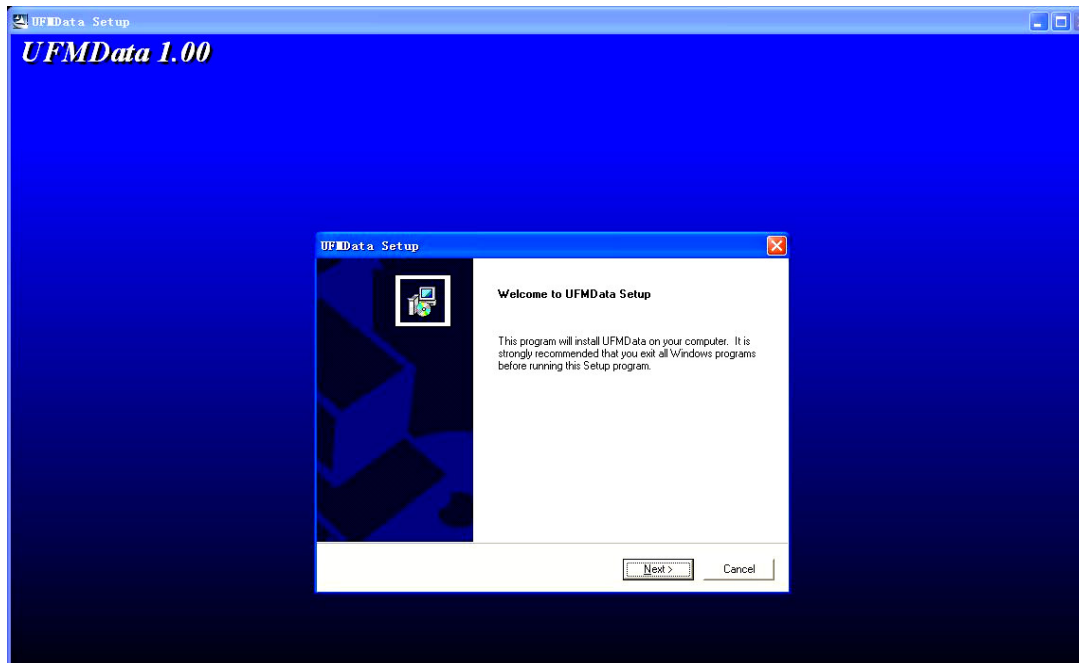

Figure 6-6 UFMDData Setup Interface
Step 1: Open Setup file in the UFMDData directory to enter installation page, as shown in Fig. 6-6. Click “Next” to proceed.